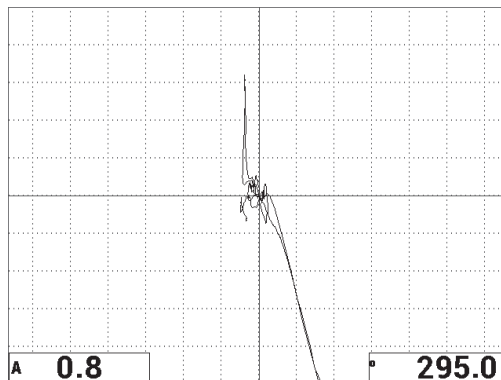

Figure 6-35 The second scan over the disbond and repaired area
9. Press the FREEZE key (❄️) to unfreeze the acquisition, press the FULL NEXT key (➡️) to display the full screen, and then slowly scan over the disbond and repaired area again (see Figure 6-35 on page 154).